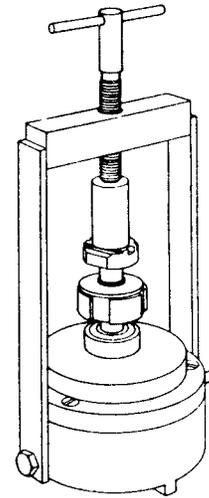

Figure 7.1
- D. Place the bearing assembly plug (T-101) onto the exposed end of the rotor shaft. (See Figure 7.1).